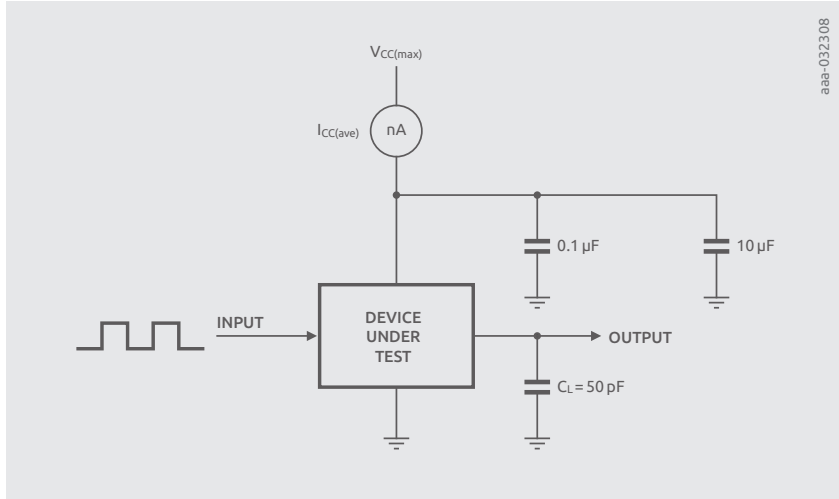

Figure 3.3 | Test set-up for C_{PD} determination
C_{PD} is specified in the CMOS device data sheets, the published values being calculated from the results of tests described in this section. The test set-up is shown in Figure 3.3. The worst-case operating conditions for C_{PD} are always chosen and the maximum number of internal and output circuits are toggled simultaneously, within the constraints listed in the data sheet. Devices that can be separated into independent sections are measured per section, the others are measured per device.
In the case of 74LVC244, I_{STAT} is negligible and can be considered as zero for the purpose of C_{PD} calculation. The test set-up for the '244 as indicated in *Conditions for C_{PD} tests* was used, with the load shown in Figure 3.3. At $V_{CC} = 3.6\text{ V}$, $f_i = 10\text{ MHz}$; $I_{CC(ave)}$ was found to be 2.24 mA .
In the case of 74LVT244, I_{STAT} cannot be considered as negligible at low frequency. As a result, a higher frequency is recommended for modeling its C_{PD} . The test setup depicted in Figure 3.3 has been used, however at a frequency of 30 MHz. $I_{CC(ave)}$ was found to be 11.53 mA. We then apply Equation (5) with the assumption that I_{STAT} is negligible.